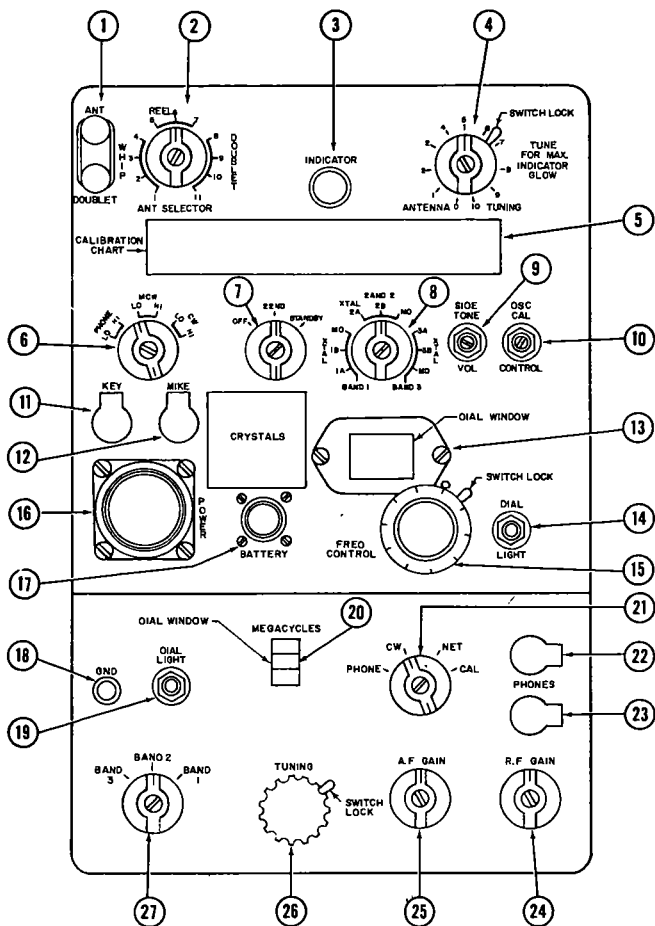

Figure 273. Radio set AN/VRC-34.
- (2) *AN/VRC-34*. Radio set AN/VRC-34, figure 273, will communicate with all AM radios having a corresponding frequency range and type of signal. It can be operated only as a vehicular radio set. The components required to operate this radio as a ground set were removed and made a part of radio set AN/GRC-87 (fig. 274) when the AN/GRC-9 radio set was repackaged. The AN/VRC-34 and AN/VRC-87 radio sets use the same receiver and transmitter but the former has only vehicular components while the latter has only ground components.